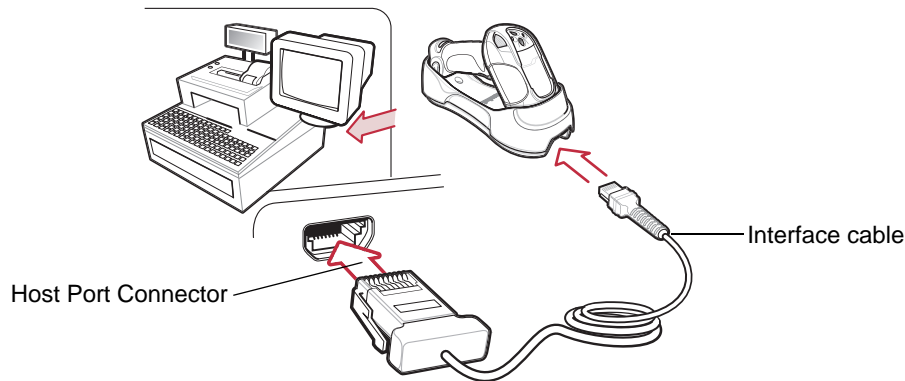

Figure 9-1 IBM Direct Connection
- ✓ **NOTE** Interface cables vary depending on configuration. The connectors illustrated in Figure 9-1 are examples only. The connectors may be different from those illustrated, but the steps to connect the cradle remain the same.